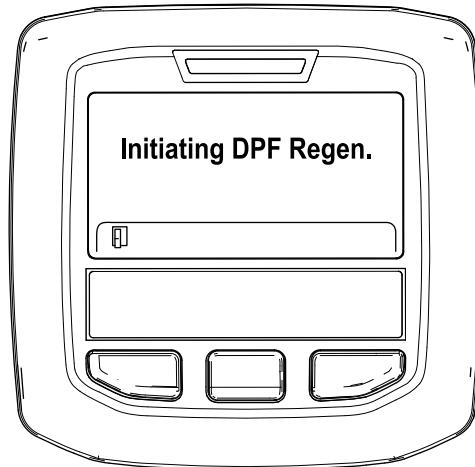

Figure 34
A. The "Initiating DPF Regen." message displays (Figure 34).